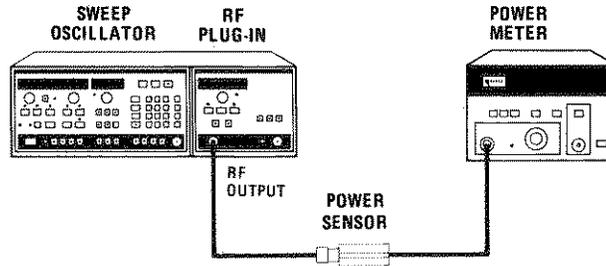

Figure 5-22. Power Calibration Test Setup
1. Connect equipment as shown in Figure 5-22. Ensure 8350A **MOD** is off. Select 8350A **MAN** sweep. Manually sweep through the band and select a frequency where the power is approximately in the center of the power variation range. Select **CW** at that frequency.